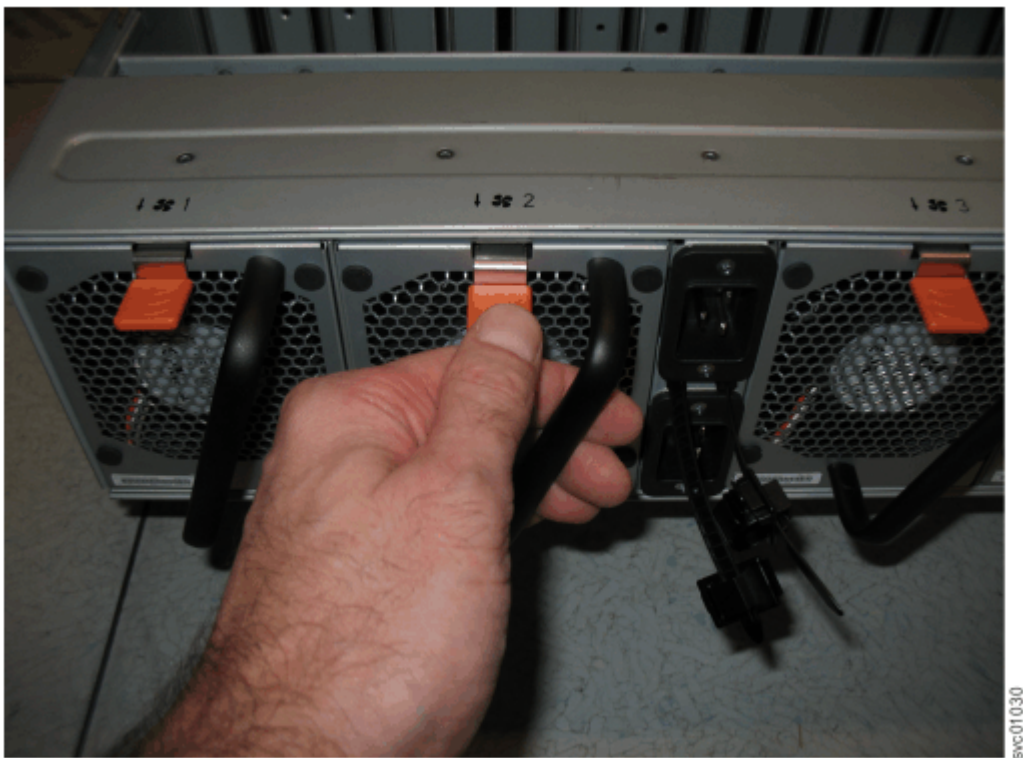

Figure 121. Fan module release tab
2. Press the release tab on the fan module, as Figure 121 on page 103 shows.